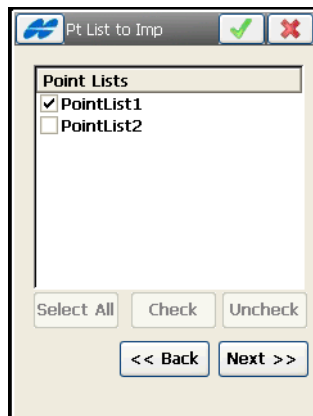

Figure 5-6. Select Point List(s) to Import
7. On the **Pt List to Imp** screen (Figure 5-6) select the point lists to import.
- alignments, vertical alignments, roads or x-section sets) which are similar to the *Pt List to Im* screen (Figure 5-6 on page 5-4).